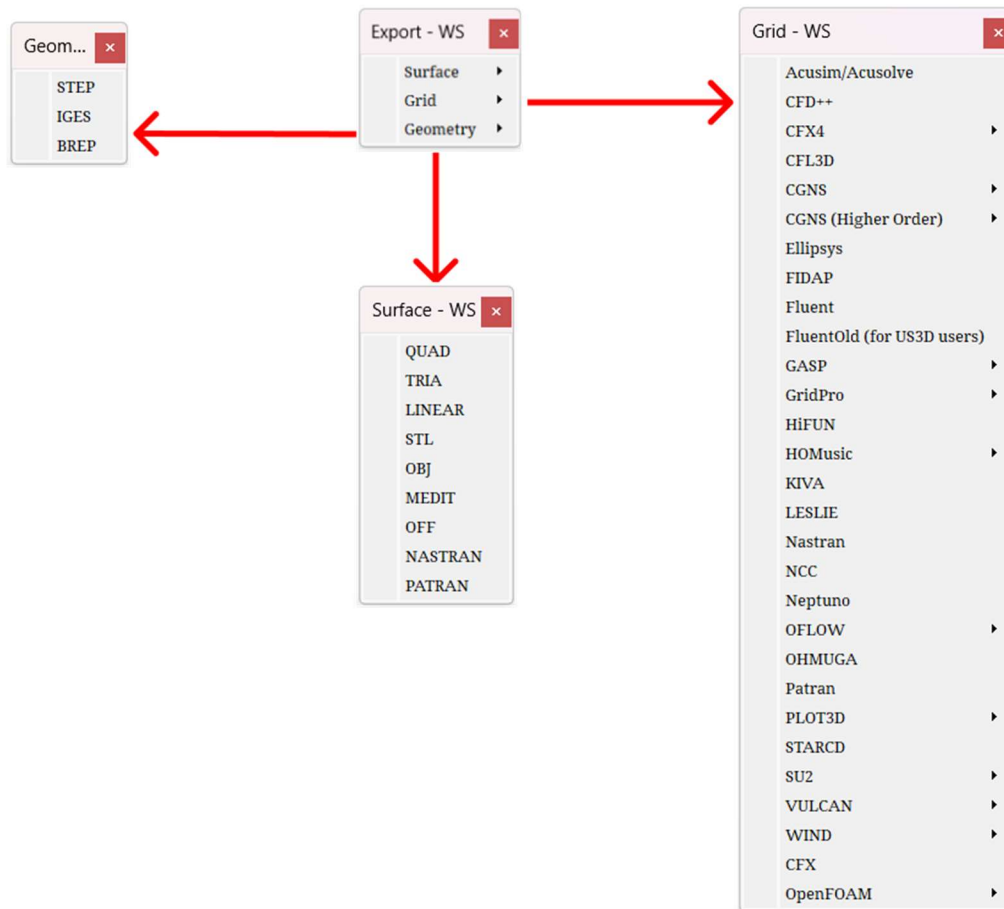

Figure 2.20: Export formats of surface and grid
**The export** option allows you to export various surface, grid and geometry formats from GridPro. Once the appropriate format is selected, it converts the file from GridPro format to the selected output format and saves it in the working directory. Figure 2.20 shows various export surface and grid formats available in the UI.